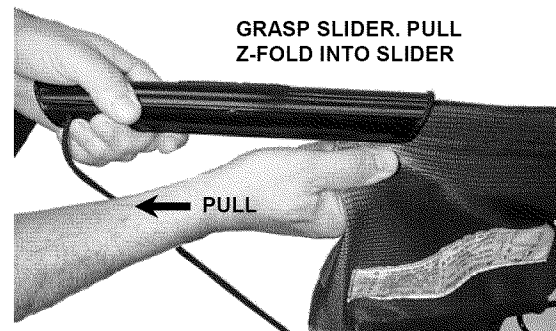

FIGURE 2.15
5. Grasp the edge of the Z-fold, and while holding the slider, pull the Z-fold fully into the slider. See Figure 2.15.